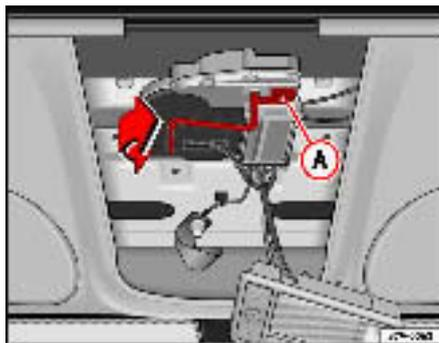

Fig. 69 Manual release
- Turn the cover (A) ⇒ fig. 69 of the lever opening in the direction of the arrow.
- Replace the lever in its casing and turn the cover (A) ⇒ fig. 69 over the lever opening.